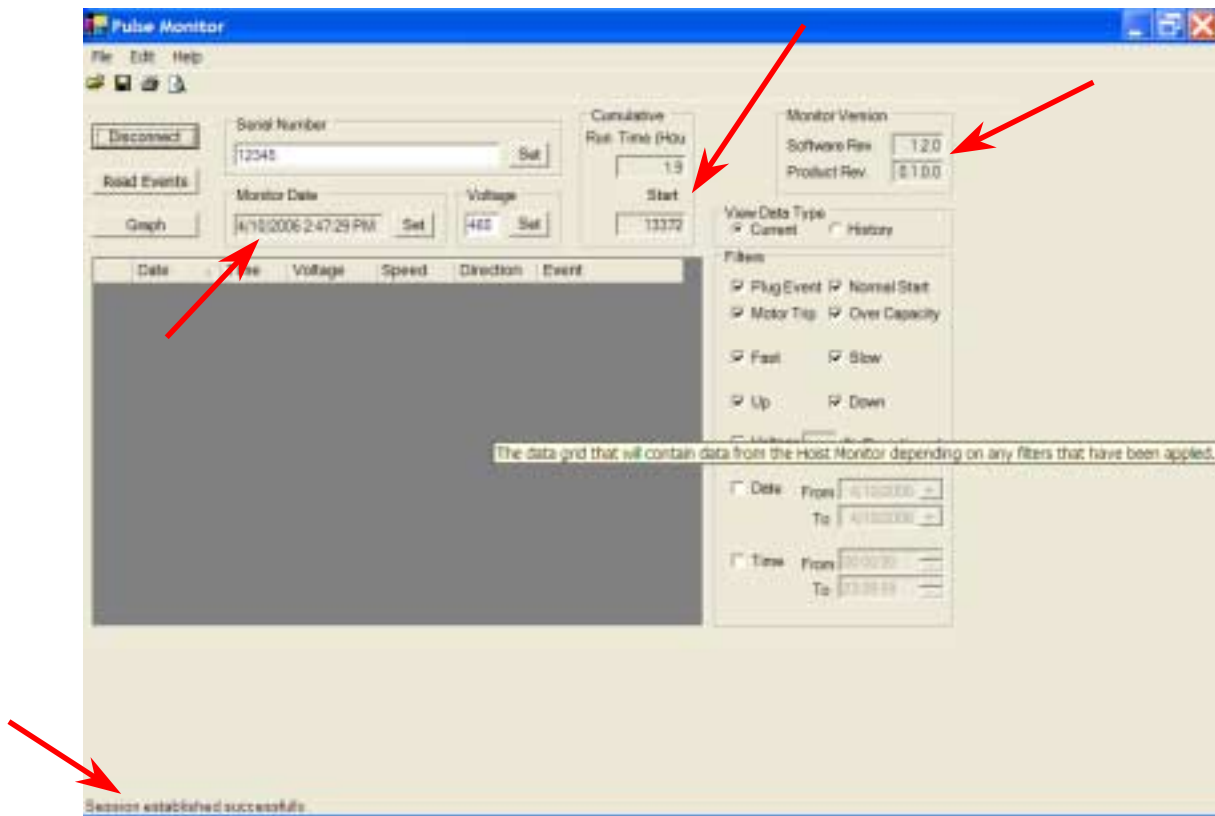

Figure 5
- 3) If your connection was successful, the following message **Session established successfully** will be displayed in the lower left corner. The monitor date, monitor version and cumulative run time / start data will also appear. See Figure 5.